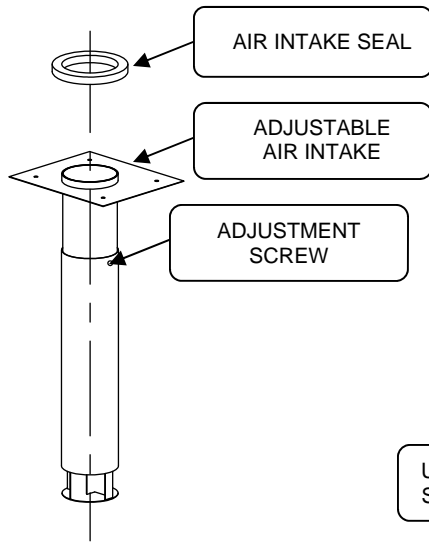

Figure 2
Step 5. Insert the air intake into the 4 3/4" diameter hole in the floor and fasten to the floor with the (4) screws provided.
Step 6. Place the air intake seal on top of the air intake mounting flange and around the 3" diameter tube (see Figure 2).